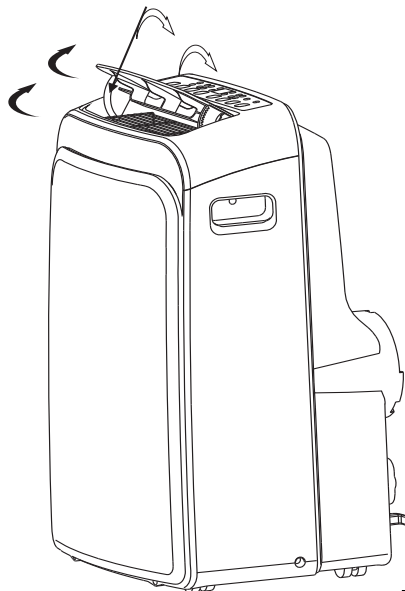

Fig.4
Adjust the air flow direction automatically (Fig. 4):
- The louver can be adjusted automatically, to change the airflow direction. (Fig.4)